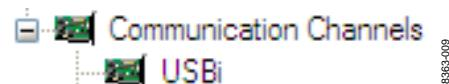
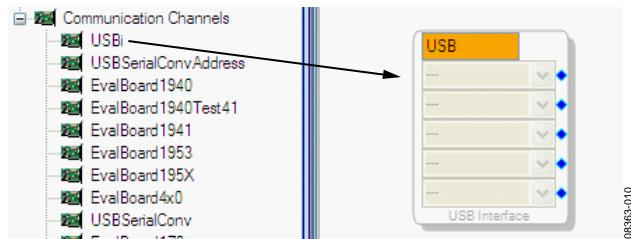

Figure 9. Adding the USBi Communication Channel to the Evaluation Board for the ADAU144x
Figure 10. Adding a USBi to the Project
- Within the **Tree Toolbox** there is a subsection called **Communication Channels**. From the list of **Communication Channels**, click and hold **USBi** dragging it to the right into the empty white project space. See Figure 9 and Figure 10 for details.